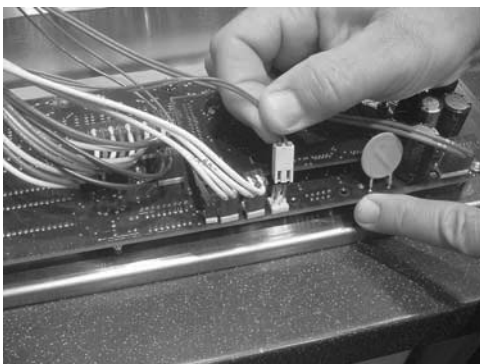

Figure 3-18
5. Pull connector from the PC board. Figure 3-18.